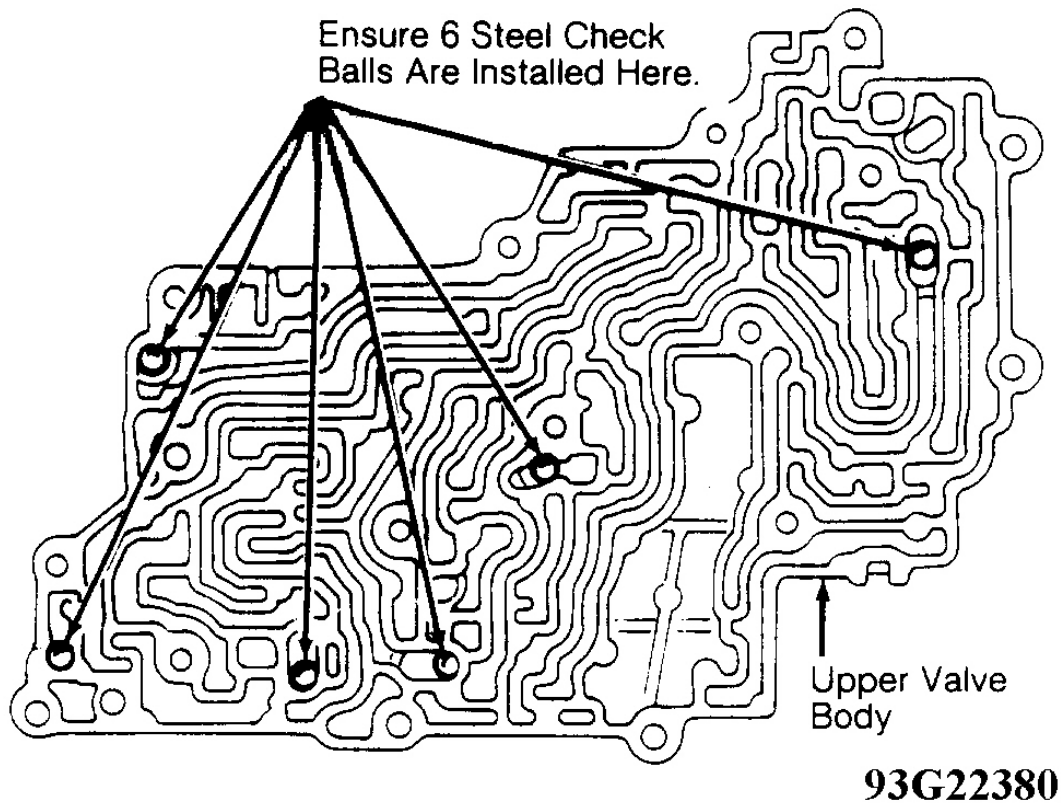

Fig. 18: Locating Upper Valve Body Check Balls
1. Remove oil strainer and magnet (if still attached). Remove lower valve body and separator plate from upper valve body. DO NOT lose 6 steel check balls from upper valve body. See **Fig. 18** . Using wire, push out retaining pins from 2-3 shift valve side of lower valve body.
1. To assemble, reverse disassembly procedure. Install 6 steel check balls in upper valve body. See **Fig. 18** . Assemble separator plate and valve bodies. Install reamer bolts first and then install and tighten remaining bolts.